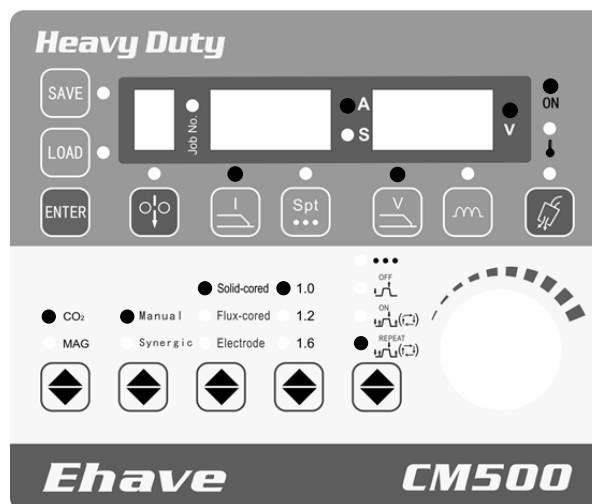

Figure 3-13 Selecting the mode of welding with repeated ending arc
4. Figure 3-13 shows the control panel where the parameters have been set.